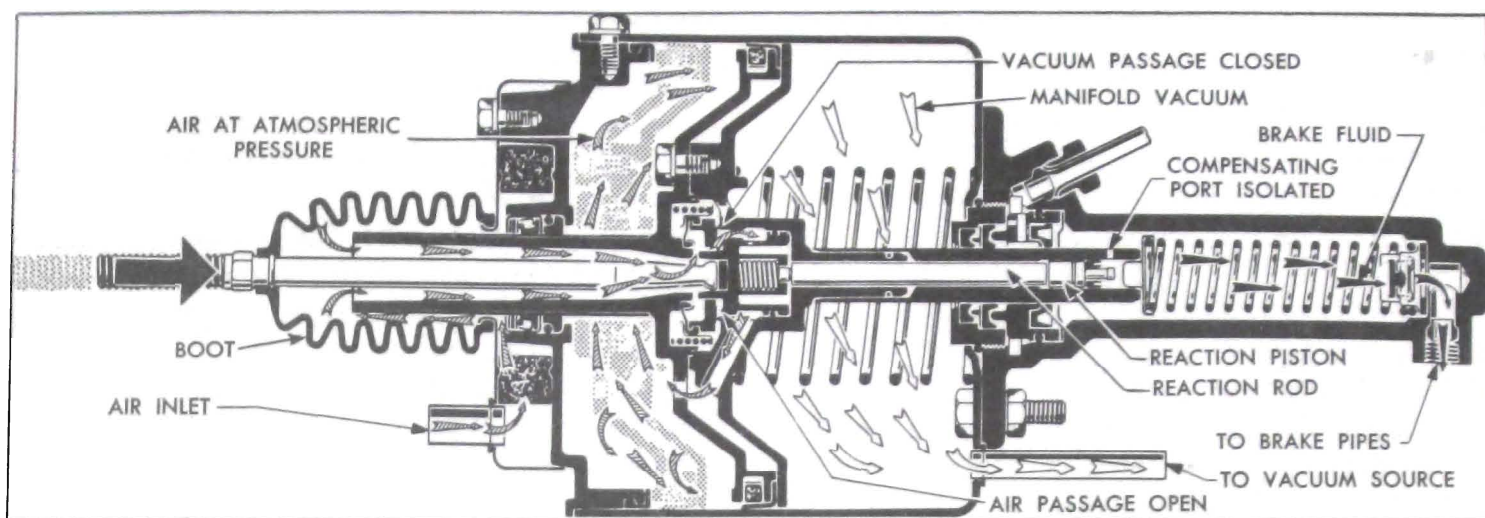

Figure 8-4—Applied Stage
(2) *Applied Stage.* See figure 8-4. Pressure on the brake pedal moves the push rod rearward into contact with the air valve seat. As the valve seat is moved clear of the piston guide hub a restricted amount of outside air starts moving through this opening, and into the *air chamber*. The outside air at atmospheric pressure enters through the inlet in air cleaner cover, is filtered as it passes through the felt cleaner core, then flows through the push rod boot and piston guide sleeve to the air valve opening mentioned.